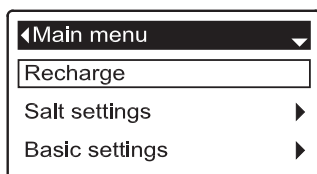
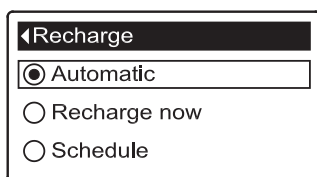
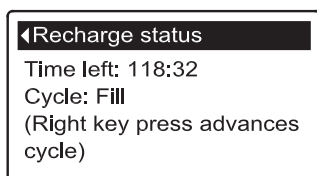

FIG. 93
FIG. 94
FIG. 95
2. Make sure **Recharge** is highlighted (See Figure 93).
3. Press the SELECT (O) button to display the Recharge menu (See Figure 94).
4. If the desired option already has a black dot next to it (See Figure 94), go to Step 5. Otherwise, press the DOWN (▼) or UP (▲) buttons to scroll to the desired option, then press SELECT (O) to choose it.
- **Recharge now** begins a recharge immediately after the SELECT (O) button is pushed again in Step 5.
5. Press the SELECT (O) button. If **Recharge now** is selected, the display immediately goes to the Recharge status screen (See Figure 95). If **Automatic** or **Schedule** are selected, the display goes back to the Main menu (Figure 93).